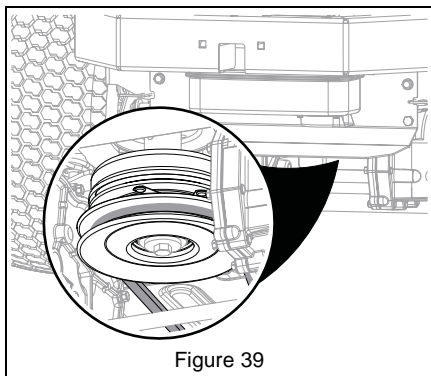

Figure 39
5. Remove deck drive belt from rear drive pulley. See Figure 39.